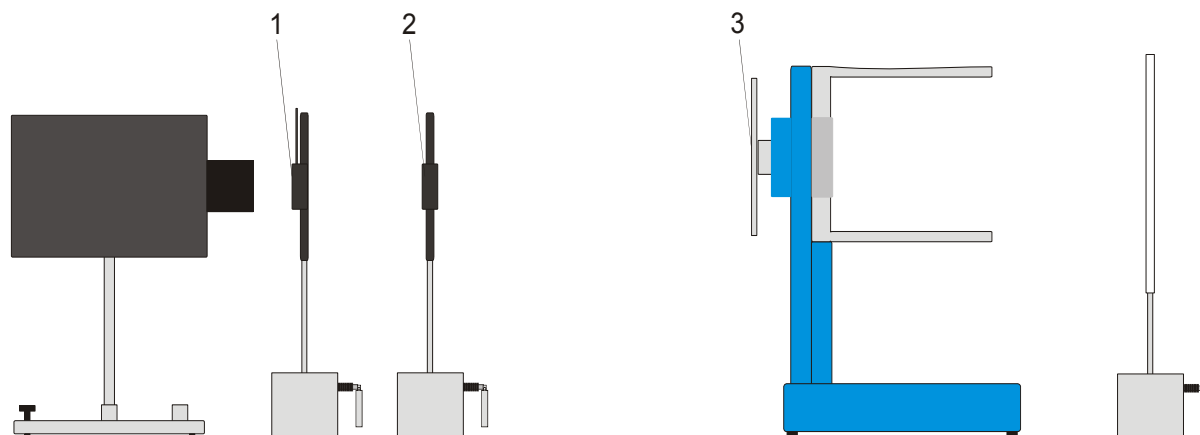

Fig. 1 Experiment set-up, 1 pinhole aperture slide, 2 lens, 3 aluminium disc
- Set up the experiment as in Fig. 1.